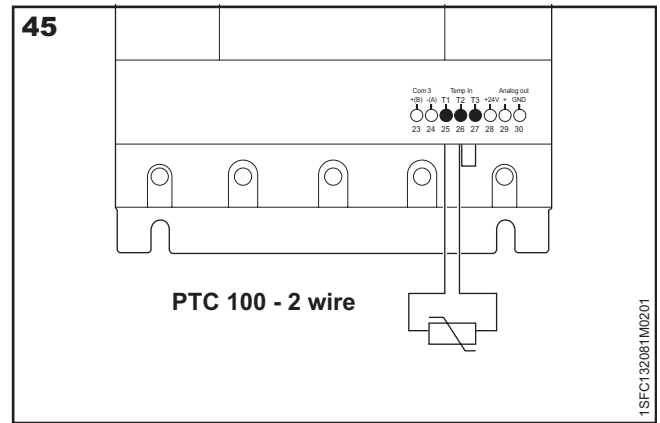

Figure 45: PTC 100 - 2 wire
**Table 1 Temperature errors in °C/K** can be used for PTC100 sensors to determine the temperature errors caused by the line length. See **Figure 45**.